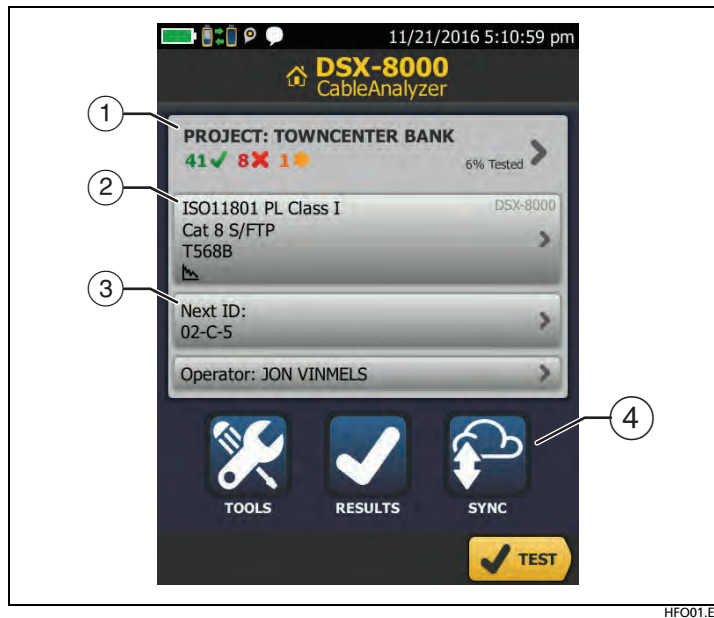

Figure 2. Panels on the Home Screen
- 2-1 On the home screen, tap the test setup panel (see Figure 2, number ②).